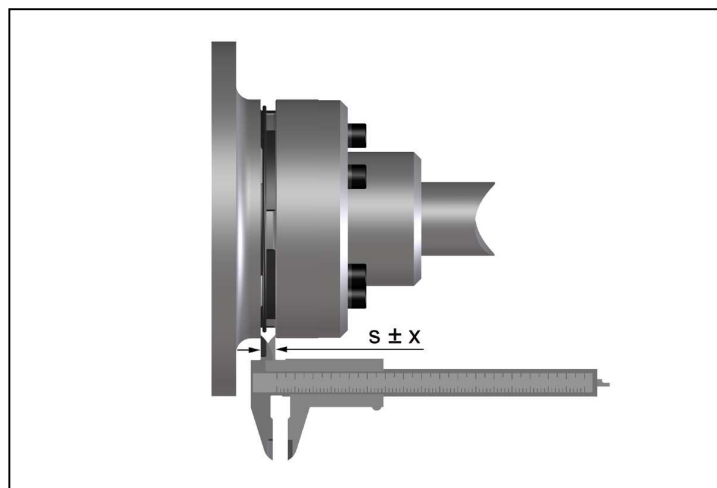

Fig. 9
- Measure the axial gap dimension as shown in Fig. 9.